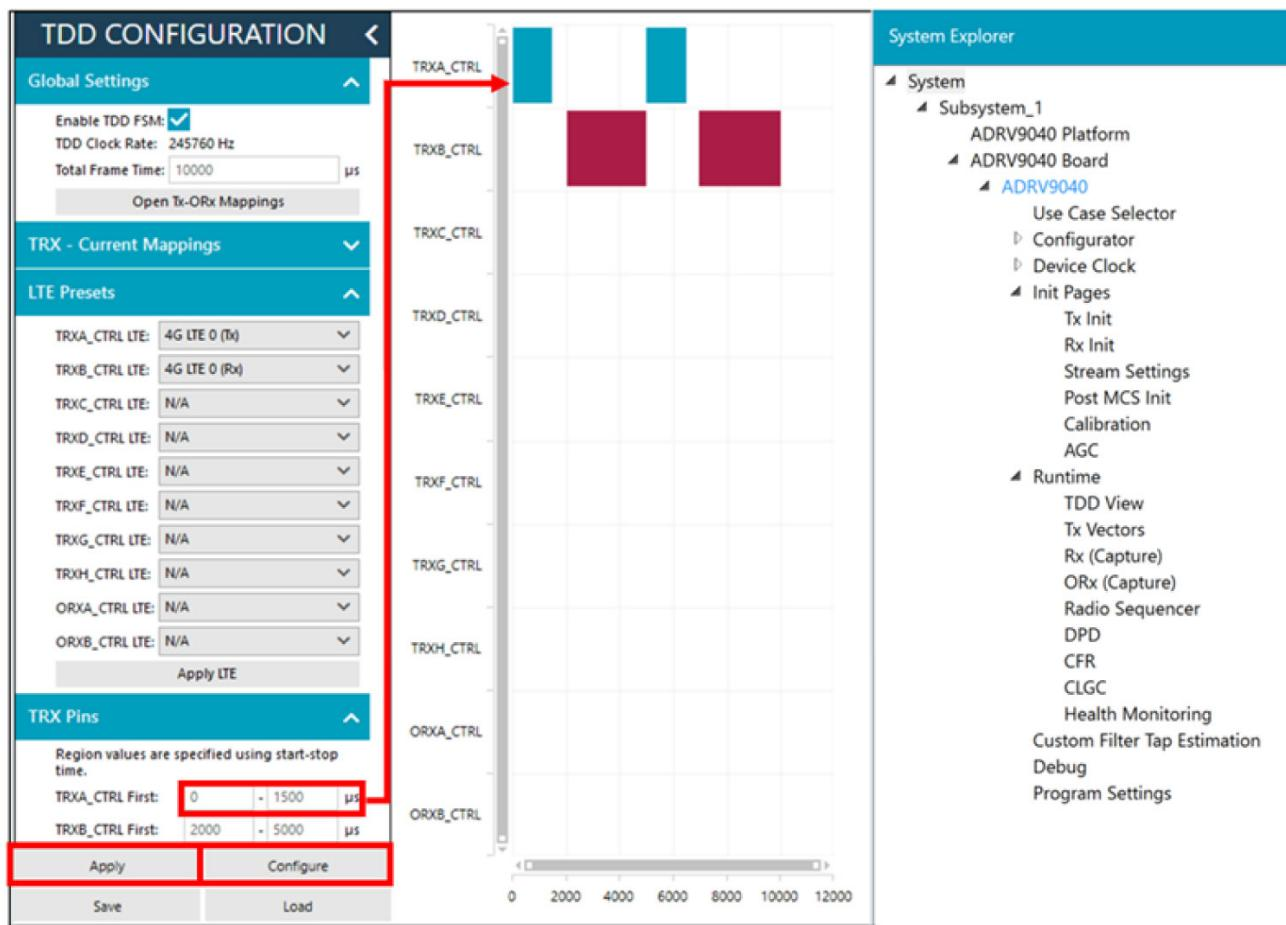

Figure 62. TDD Configuration Page Used to Specify Enable Timings for Each CTRL Pin and Configure the TDD State Machine
1. Enter start and stop times to specify a time range for driving each TRX_CTRL pin. Four start and stop time ranges can be specified per pin. LTE presets can also be applied to each CTRL pin from under **LTE Presets**. Figure 62 applies **4G LTE 0 (Tx)** preset to **TRXA_CTRL LTE** and **4G LTE 0 (Rx)** preset to **TRXB_CTRL LTE**.